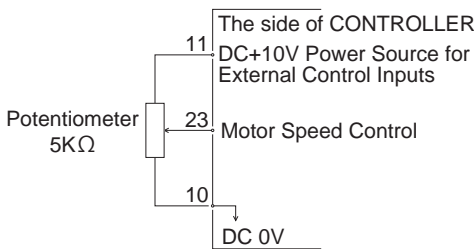
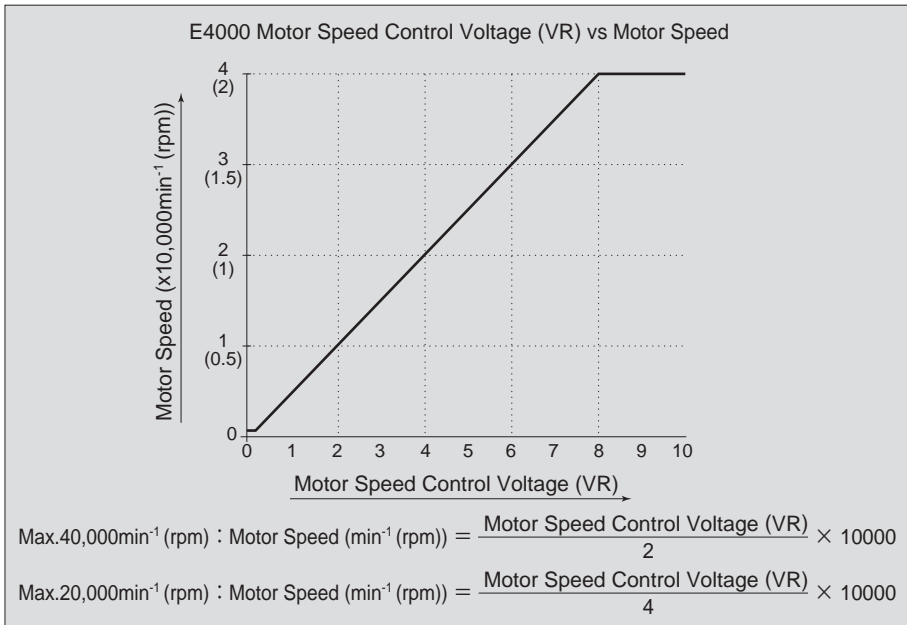

Fig. 29
Fig. 31
④ Motor Speed Control Signal
Rotation Speed can be selected by, applying analog voltage to the " Motor Speed Control Voltage (VR) ". Refer to Fig. 29, 30 for connections. Refer to Fig. 31 for the relationship between Motor Speed and " Motor Speed Control Voltage (VR) ".